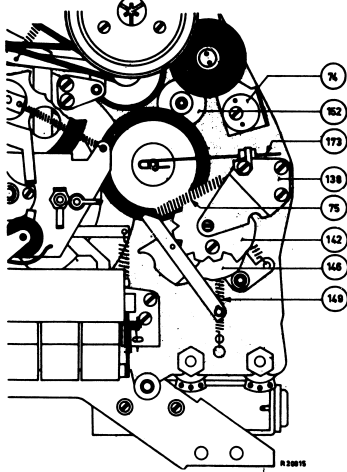

Fig 53
- Put the apparatus in the position 19 cm/sec (without mains voltage). Tighten the three screws which affix plate 138 to the chassis to such an extent that this plate cannot easily be moved, see fig. 53. Place the metal covering plate on the apparatus and screw them so tightly that the 5 screws are all exactly in the middle of the hole in this covering plate. Now put the shaft of the switch cam 146 exactly in the middle of the hollow in the covering plate and make sure that this shaft does not move.
- Remove the ornamental cap and the covering plate and firmly secure the three screws, which affix the plate 138, without moving the shaft of switch cam 146. Undo the two screws which affix stop plate 142 on switch cam 146 one turn. see fig. 53.